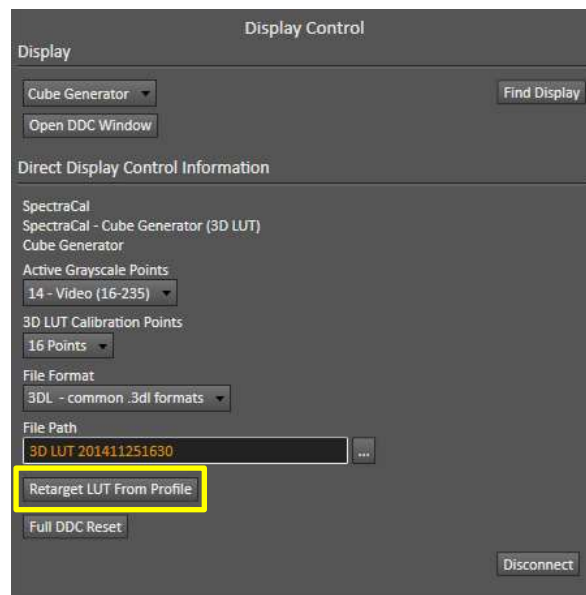

Figure 5: On the CalMAN Display Control tab, click the "Retarget LUT From Profile" button to create an additional LUT with different calibration targets.
1. On the CalMAN *Display Control* tab, click the "Retarget LUT From Profile" button (figure 5).